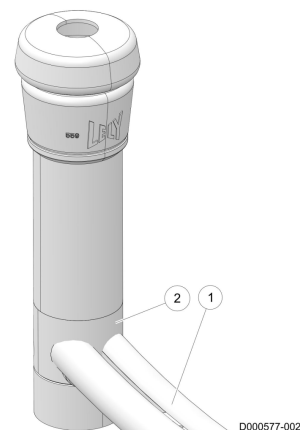

Figure 36. Connect the twin tube to the teat cup
3. Clean and dry the milk collection cup (2) (see figure 36 on page 5-18).
4. Fully connect the twin tube (1) to the milk collection cup (2) of the teat cup.